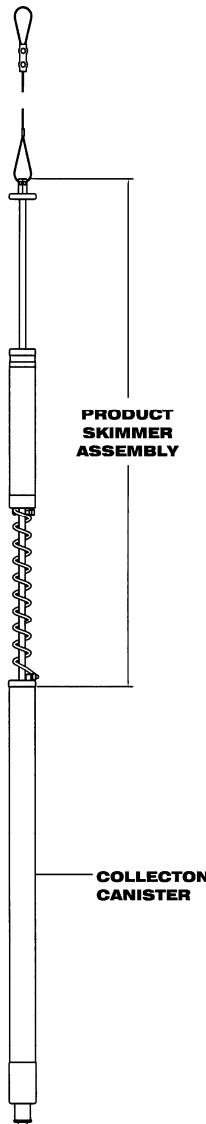

Figure 1-1 - 2" PRC Skimmer Assembly
A PRC consists of two (2) major components; a product skimmer assembly and a collection canister (as shown in Figures 1-1 through 1-3). On the 4" model, the skimmer assembly is protected by a slotted screen which pre-filters the incoming product and protects the intake assembly from damage. The skimmer assembly collects free product and passes it through a coiled hose to the collection canister. Recovered product is evacuated by removing the PRC from the well and opening the drain on the bottom of the device.